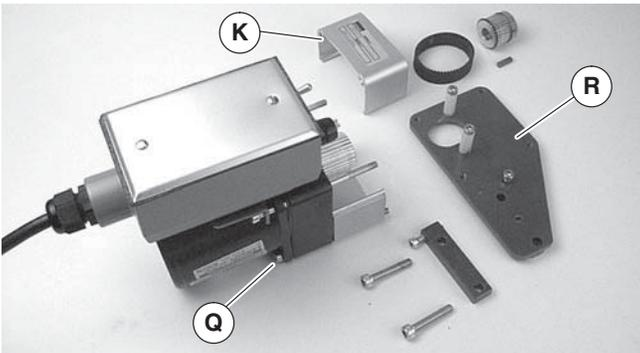

Figure 4
- Loosen four (4) screws (Figure 4, item Q). Detach mounting bracket (R).